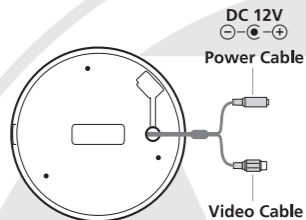

Figure 5
2. To connect the power source, insert the DC Power plug into the DC Jack on the camera's trailing lead. (as shown in Figure 5).